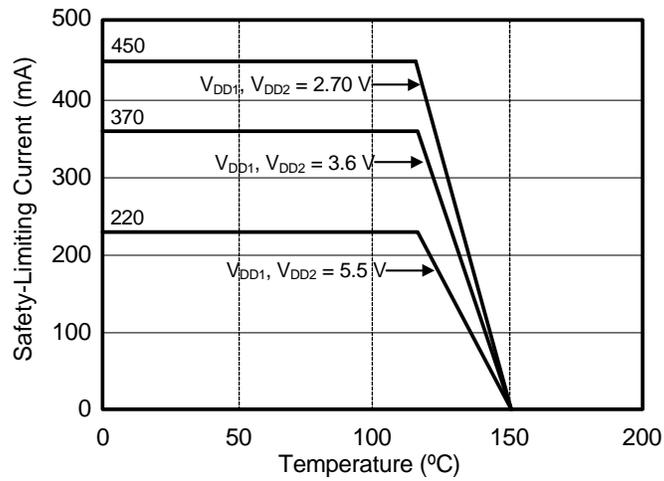

Figure 3. (WB SOIC-16) Thermal Derating Curve, Dependence of Safety Limiting Values with Case Temperature per DIN EN 60747-5-2
- Maximum value allowed in the event of a failure; also see the thermal derating curve in Figure 3.